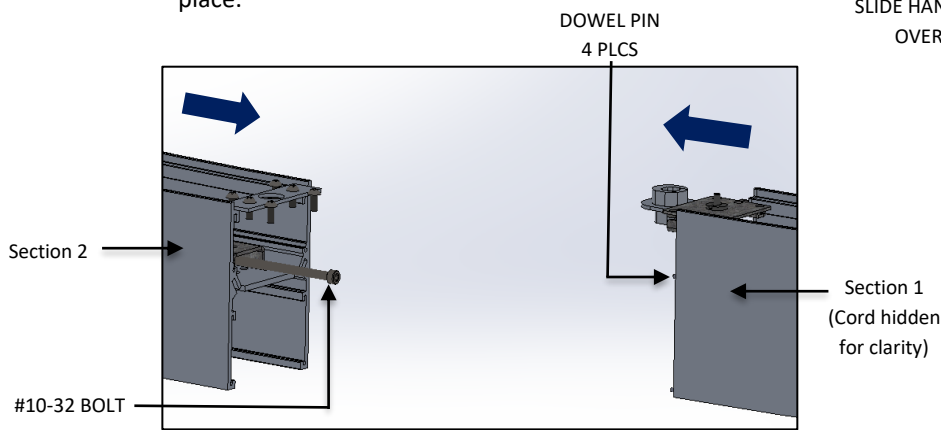

FIG. 19 – SECTIONS INSTALLATION
18. Connect two sections by lining up the dowel pins and pushing the sections together. Install the 4" #10-32 bolt & nut and tighten as shown in FIG. 19. This pulls the sections together.